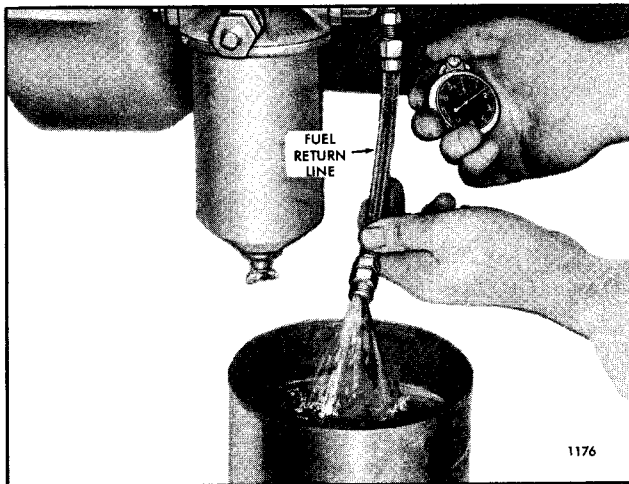

Fig. 6 - Measuring Fuel Flow
1. Disconnect the fuel return hose from the fitting at the fuel tank and hold the open end in a convenient receptacle (Fig. 6).